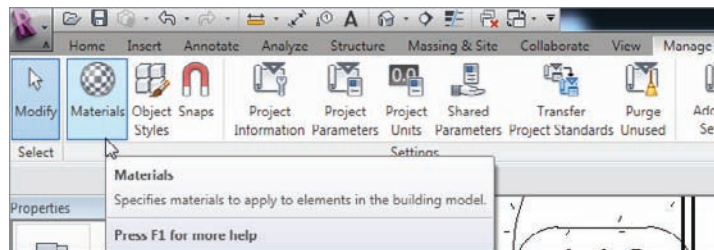

FIGURE 11.73 Click the Materials button on the Manage tab.
1. On the Manage tab, click the Materials button, as shown in Figure 11.73.